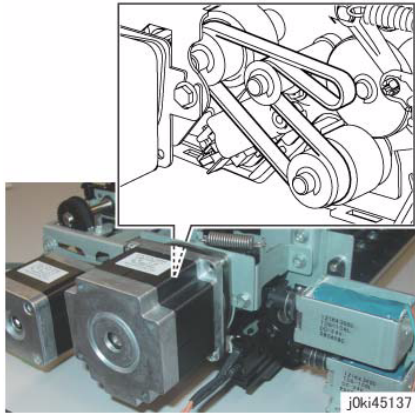

Figure 2 Install the Belt
2. Install the Belt to the Pulley of the DADF Feed Motor. (Figure 2)